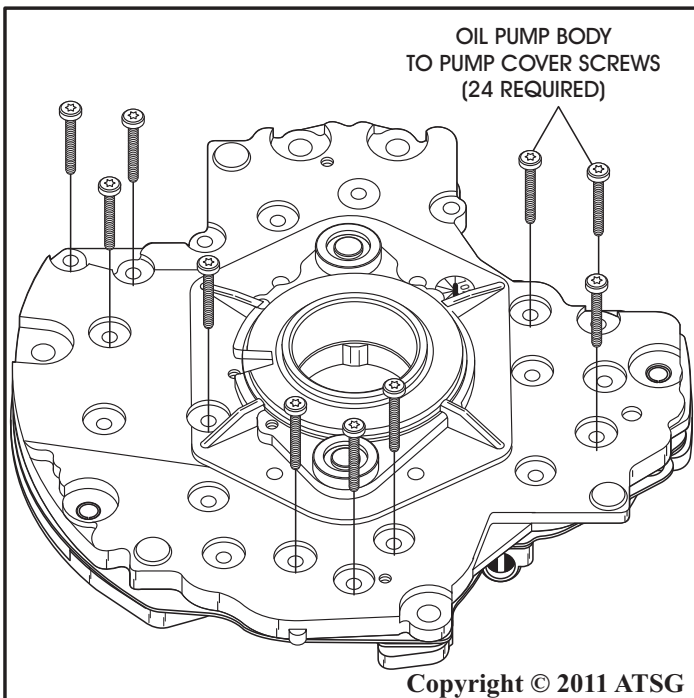

Figure 116
14. Seat the two halves together and very carefully turn the assembly over, as shown in Figure 116, and start all 24 screws finger tight.